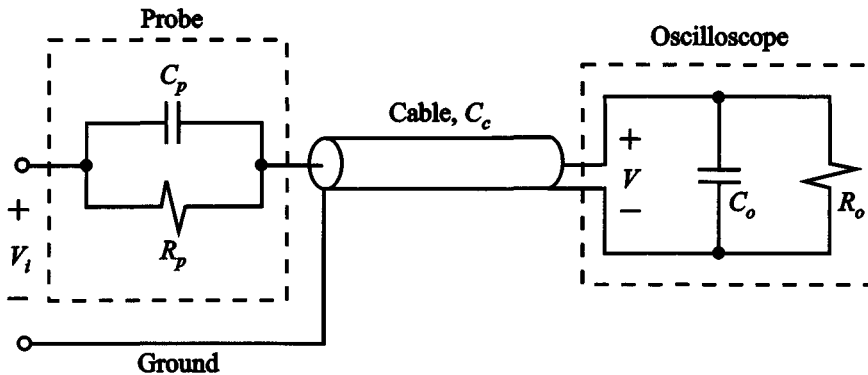

Figure 2.28. Construction of a scope probe.
- G. We can reduce the delay further with a high-impedance probe. Figure 2.28 shows a simplified view of the construction of a high-impedance scope probe. We will calculate the values for R_p , C_p , and C_c . Start by considering only the resistances. What value must the probe resistance R_p have to make the resistance marked on the probes correct, given the resistance R_o marked on the scope? You may want to check the probe resistance R_p with a multimeter to verify your answer. For these values of R_p and R_o , what is the ratio of the input voltage V_i to the output voltage V ?